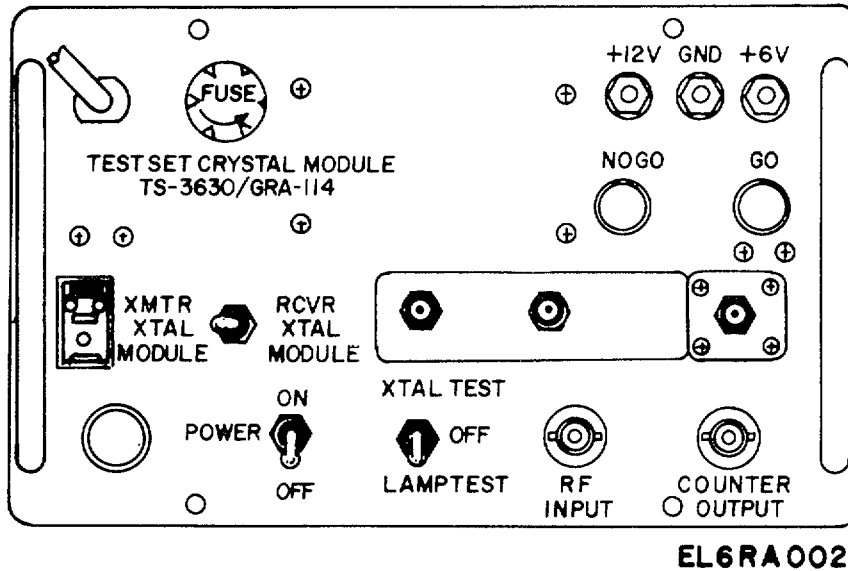

Figure 1-2. Control Panel.
b. Two cable retainers are mounted inside the top cover and are used to store the power cable. The control panel (fig. 1-2) is mounted in the lower portion of the case and secured with four screws. Two handles are mounted on the panel to enable the panel to be lifted out of the case during maintenance. The front panel contains the controls for the alternating current (AC) input power, and the fuseholders, indicators and con-